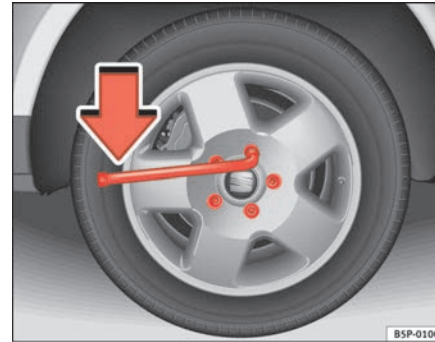

Fig. 151 Changing the wheel: loosen the wheel bolts
- Grasp the box spanner by the end turn it about one full turn to the **left** ⇒ fig. 151.